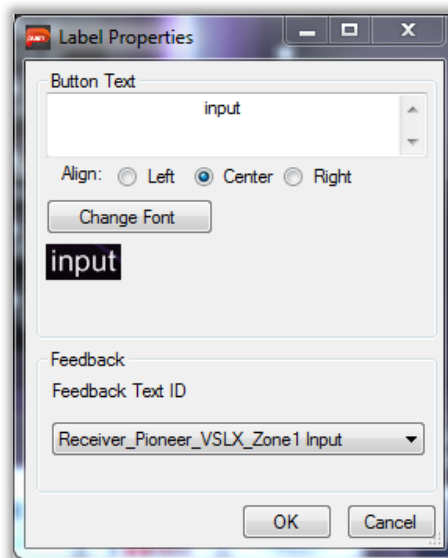

Figure 15 - Label Properties: configuring a dynamic label for the Pioneer Receiver
- Set the “Feedback Text ID” to Receiver_Pioneer_*Zone* Input. *Refer to Figure 15*